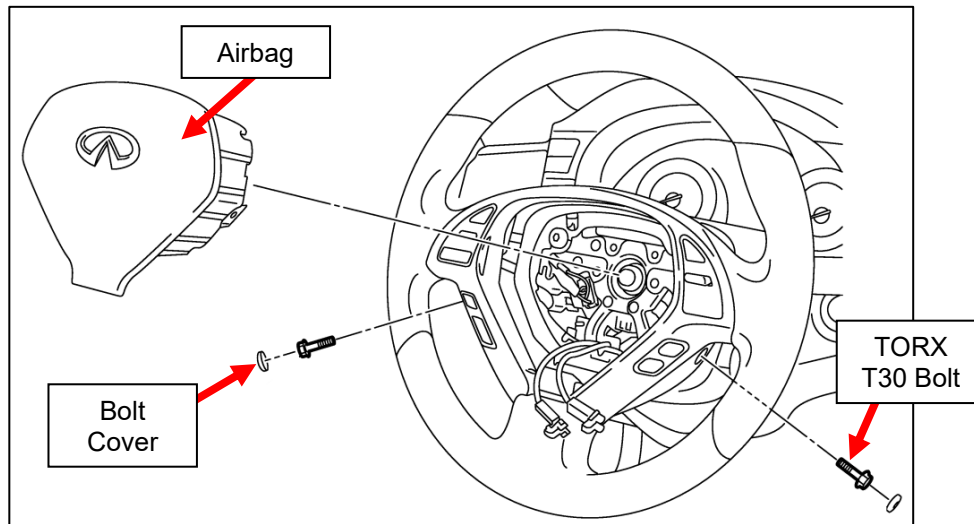

Figure 1
6. Remove the (2) two Covers hiding the (2) two bolts securing the Airbag to Steering Wheel. *Figure 1.*
7. Remove the (2) two bolts securing the Airbag to the Steering Wheel. These need a TORX T30 Bit. It is recommended to replace these bolts after removal. *Figure 1.*